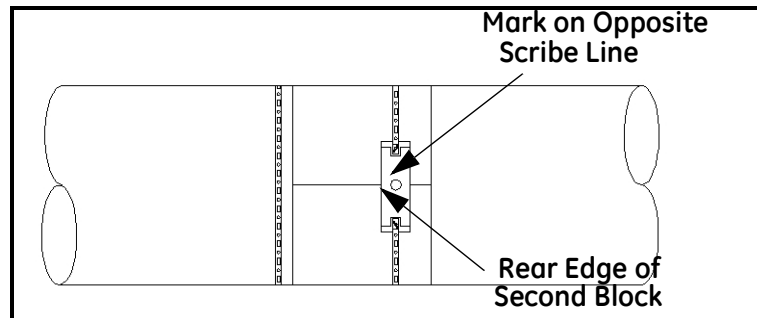

Figure 29: Lining up the Rear Edge of the Bracket with the 180° Scribe Line
- Line up the *other* edge of the CFG-PI holder bracket with the scribe line and tighten the chain or strap, as shown in Figure 29 below.